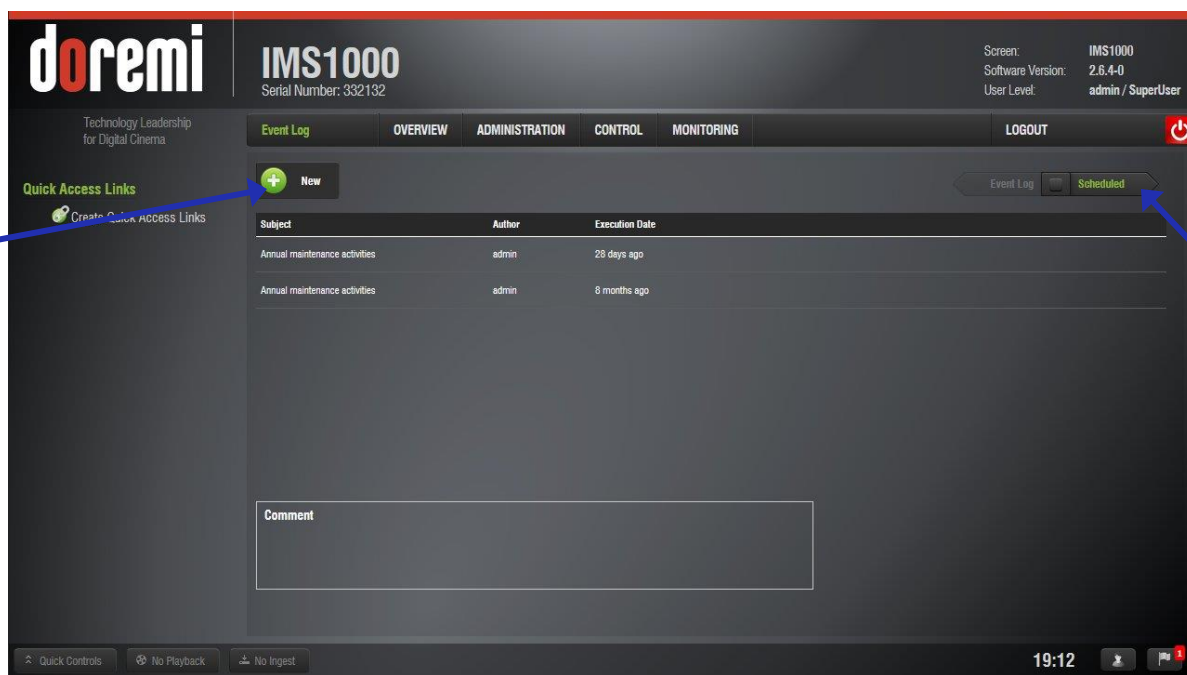

Figure 165: Event Log Tab
- To create an event log, click on the New button (Figure 165).